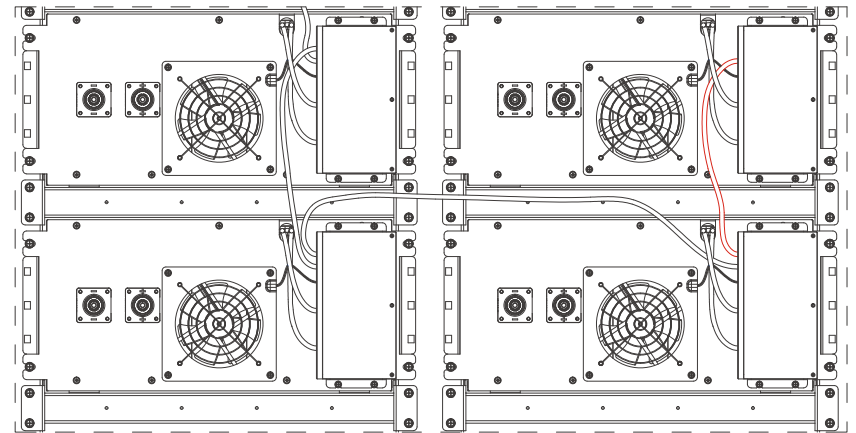

Figure 2.9
(5) The BMU communication output of the previous battery box is connected with the BMU communication input of the next battery box (Figure 2.9).